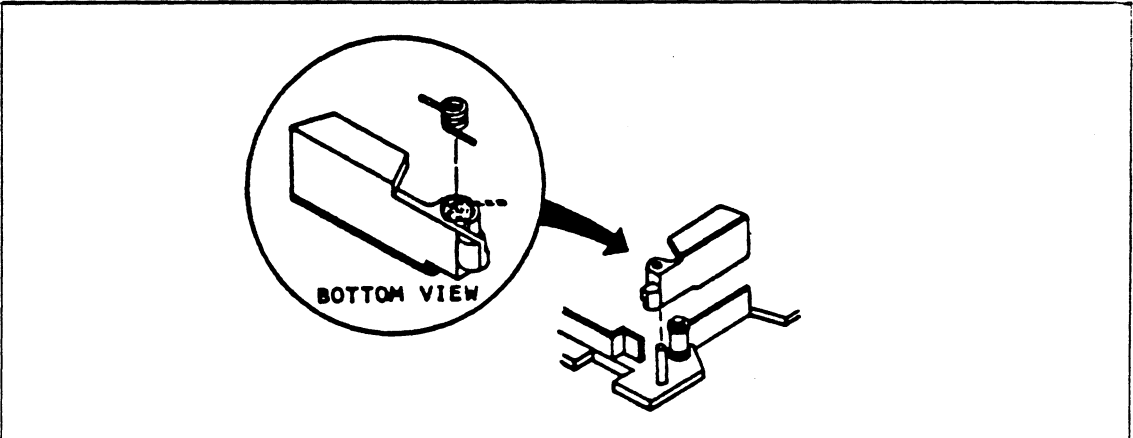

Figure 214-16. Cartridge Tape Spring Installation
- a. Align the long and short ends of the spring with the long and short ends of the gate. (see Figure 214-16).